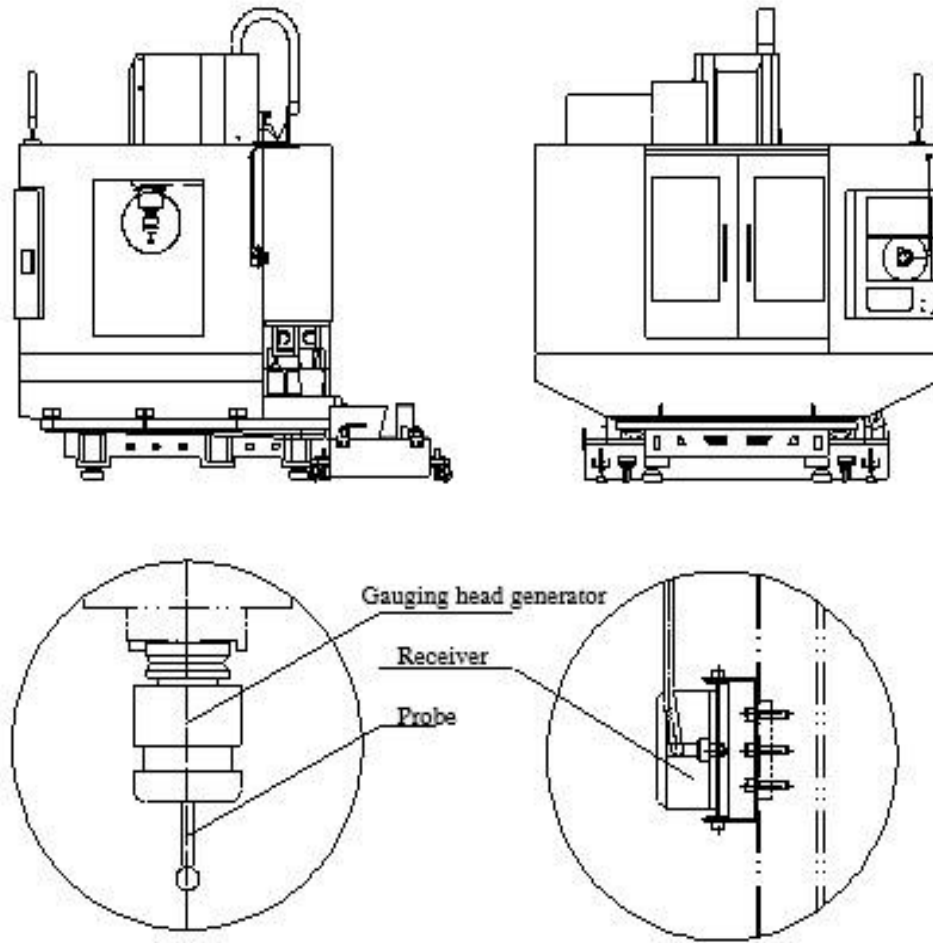

Fig. 3.16
- 1) Connect the gauging head generator with tool bar as Fig. 3.16.